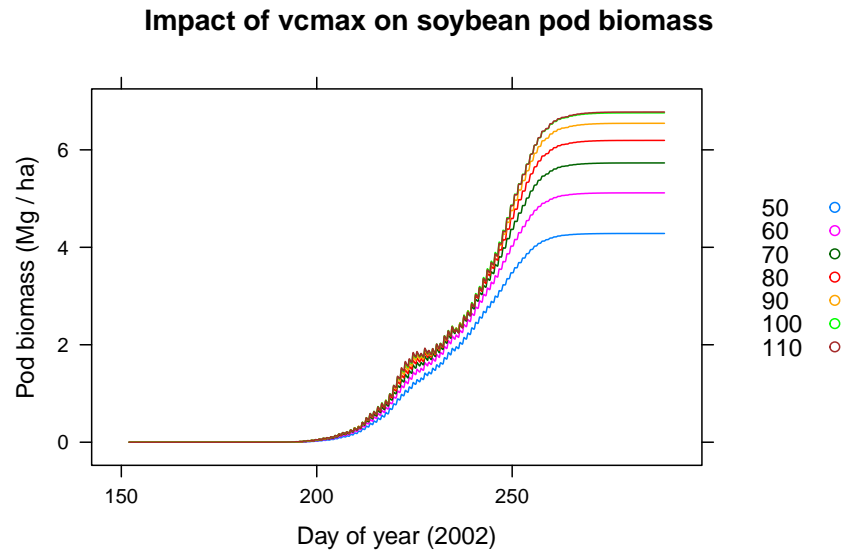

Figure 2: Soybean pod biomass throughout 2002 simulated with different values of $v_{c,max}$.
- Run the soybean simulation a few times with several different values of a key parameter (such as `Vcmax_at_25`, which represents the maximum rate of carboxylation $v_{c,max}$) and compare plots of the time evolution of the `Grain` quantity (representing the pod mass per unit area) in each of the scenarios. (See Figure 2 for a possible solution.)